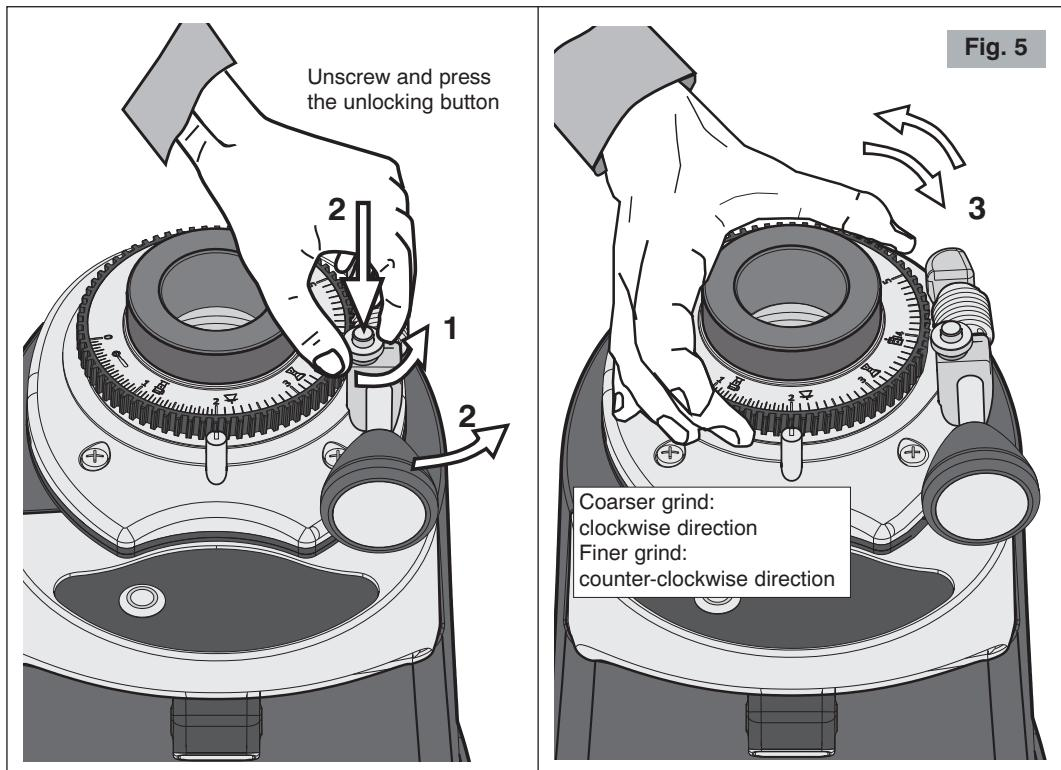

Fig. 5
- It is possible to speed up the adjustment operations by directly turning the grinding adjustment toothed disc (4 Fig. 1) (see Fig. 5 - 1, 2, 3), after having first unlocked by unscrewing and pressing the unlocking button (5 Fig. 1) and moved away the adjustment block.